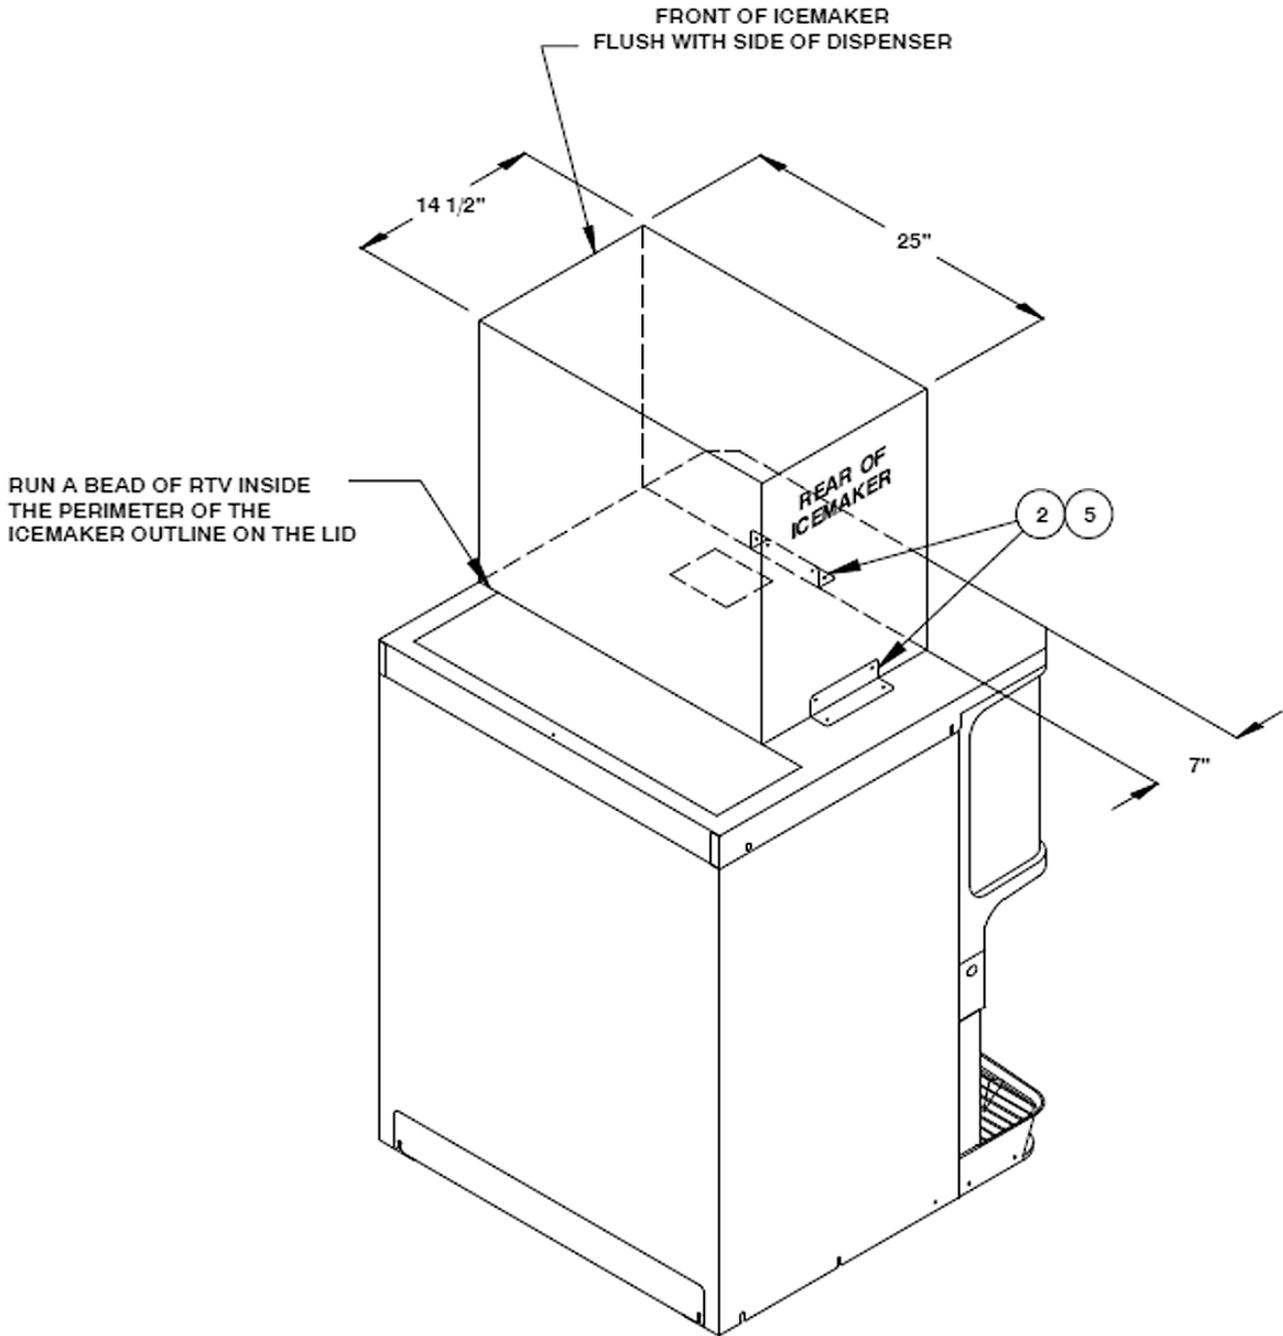

Figure 2.
7. Seal the ice maker to the dispenser lid as follows (see Figure 2):
- B. Set the ice maker onto the lid and position it as shown in Figure 2
8. Install the ice maker mounting brackets (item 2) as shown in Figure 2. Using the brackets as a template, drill 0.136 diameter (#29 drill size) holes into the ice maker cabinet and the dispenser lid (item 1). Use care not to drill into any ice maker components (condenser, tubing, etc.). Secure the brackets using the #10 sheet metal screws provided.
10. Secure the manual ice fill cover in position on the lid over the rear hopper access opening with the thumb screw (item 6). Note that the gasket should be compressed to form a seal against the ice maker cabinet with the cover secured in position.